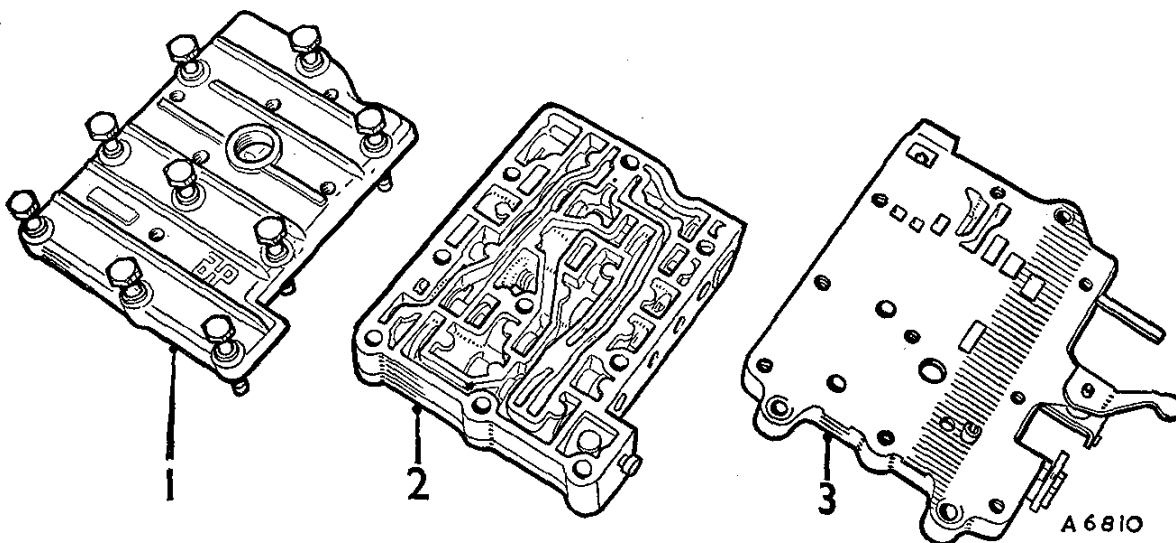

Fig. Fa.25
- (1) Remove the front grille.
- (2) Remove the filter assembly as detailed in Section Aa.2.
- (3) Remove the engine oil feed pipe.
- (4) Drain the engine/transmission unit.
- (5) Remove the transmission front cover and valve block bobbin.
- (6) Place the gear selector lever in the 'R' position on the quadrant.
- (7) Remove the bell-crank lever clevis pin. Unscrew and pull out the selector rod sufficiently to remove the valve block.
- (8) Loosen the servo unit securing bolts.
- (9) Remove the valve block assembly as individual components, i.e. the lid, valve chest, and finally (if necessary) the pipe chest (Fig. Fa.25).
- (14) Remove the lid and valve chest from the pipe chest (if removed as a unit, see Fig. Fa.25).
- (15) Remove the selector and governor valves.
- (16) Remove the 'C' clips and the plugs. Remove the regulator valve, spring, and reverse booster piston assembly.
- (17) Remove the 'C' clip and the plug. Remove the tow-start valve, spring, and spring retainer.
- (18) Remove the 'C' clips and the plugs. Remove the second and fourth gear valves, spring, and booster piston.
- (19) Remove the 'C' clip and tap out the plug. Remove the third gear valve booster piston, spring, spring retainer, and the plastic plug.